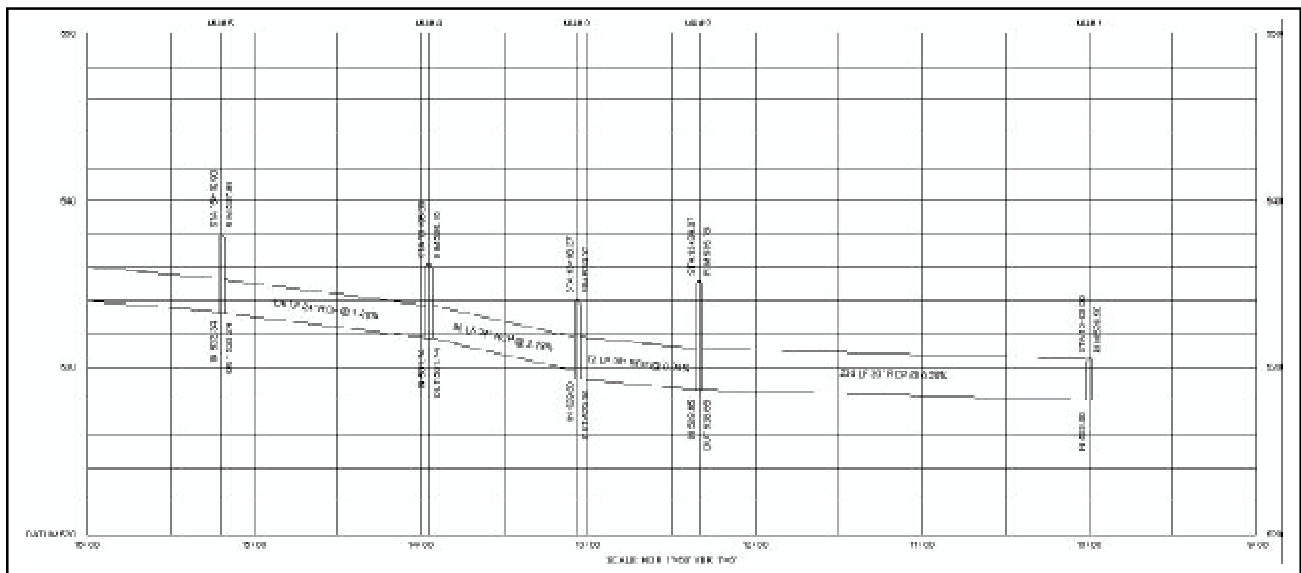

Figure 22 - Profile Of Cut out Sheet 1
15. **Right-click** at the label of the new data frame **Sheet 1 of Profile 1**, and **select** the **Activate** command to display the profile of the first sheet (see Figure 22).
8. **Scroll** down to the bottom of the TOC, **right-click** at the label of the data frame **Sheet 1 of Profile 1**, and **select** the Activate command to display the profile of the first sheet (see Figure 22).